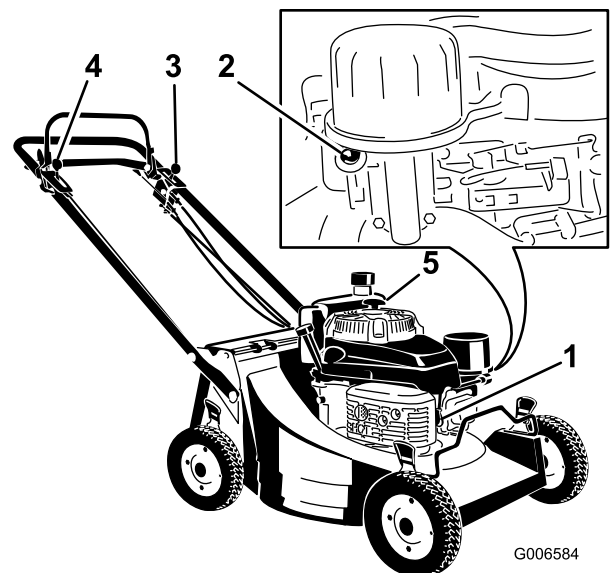

Figure 11
1. Connect the wire to the spark plug (Figure 11).
3. Move the ground speed control lever to the Neutral (N) position (Figure 11).
4. Push in the primer once with your thumb, holding it in for a second before releasing it (Figure 11).
5. Pull the starter handle lightly until you feel resistance, then pull it sharply (Figure 11).